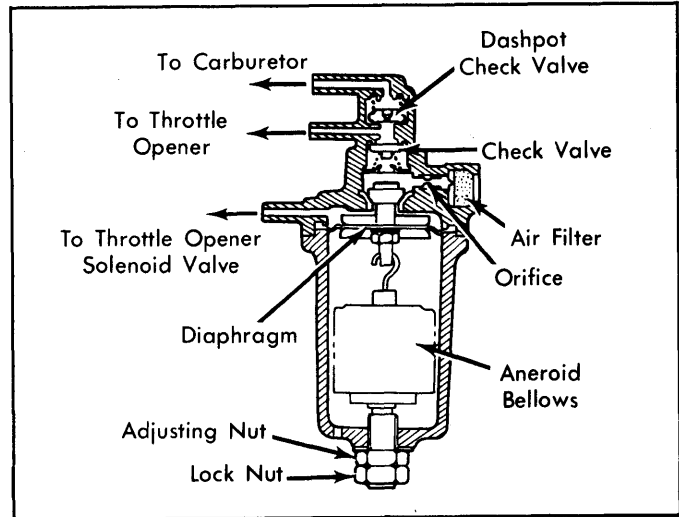

Fig. 6: Throttle Control Valve (1979 Accord & Prelude)
- 5) If throttle closes in less than one second, disconnect vacuum hose from throttle control diaphragm. See Fig. 6. Connect a vacuum gauge to hose. Raise engine speed to 4000 RPM. Vacuum should be at least 1.2 in. Hg.